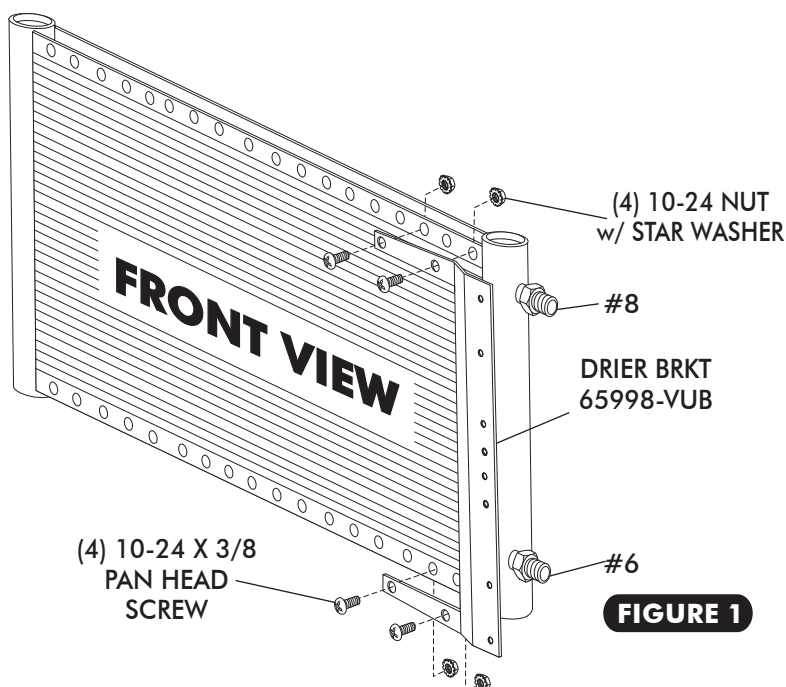

FIGURE 1
- INSTALL DRIER MOUNTING BRACKET ON TO CONDENSER USING (4) 10-24 X 3/8 PAN HEAD SCREWS AND (4) 10-24 NUTS WITH STAR WASHERS. SEE FIGURE 1. **NOTE: BRACKETS MOUNT THROUGH THE FIRST AND THIRD HOLE OF THE CONDENSER.**